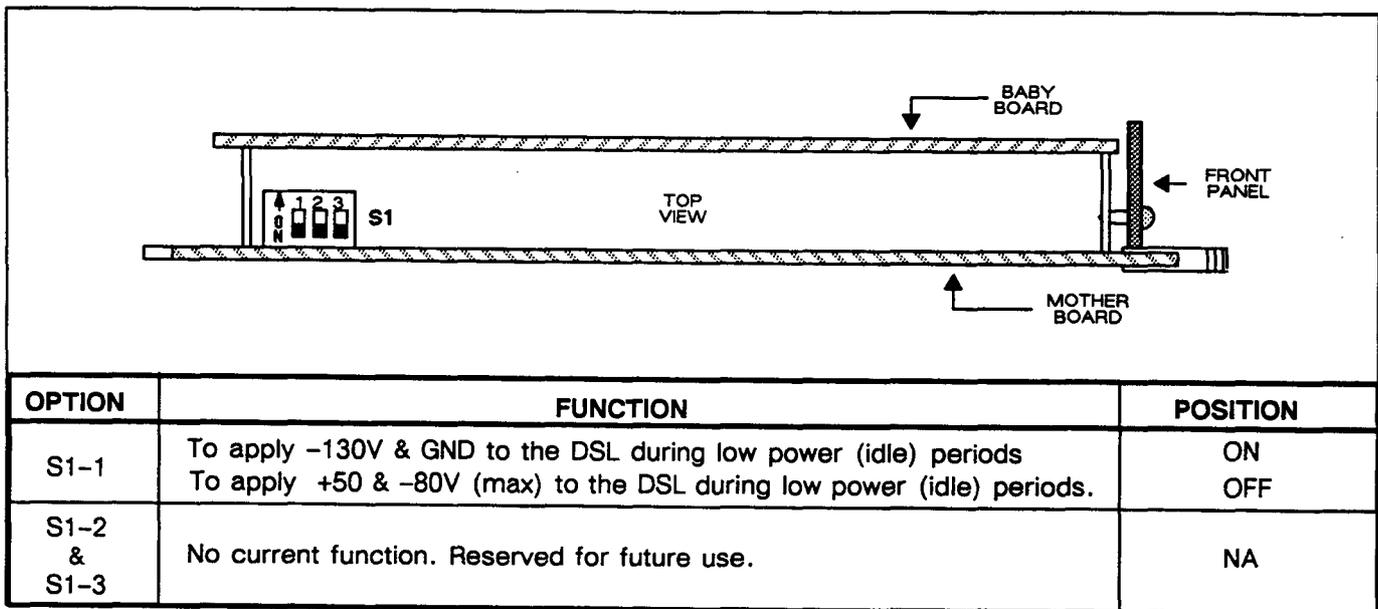

Figure 5. DDL391 Option Locations And Summary
7.01 The DDL391 is equipped with a 3-section DIP switch, to condition the module for proper operation and application. Refer to Figure 5 for the location of these options while reading the following optioning instructions.